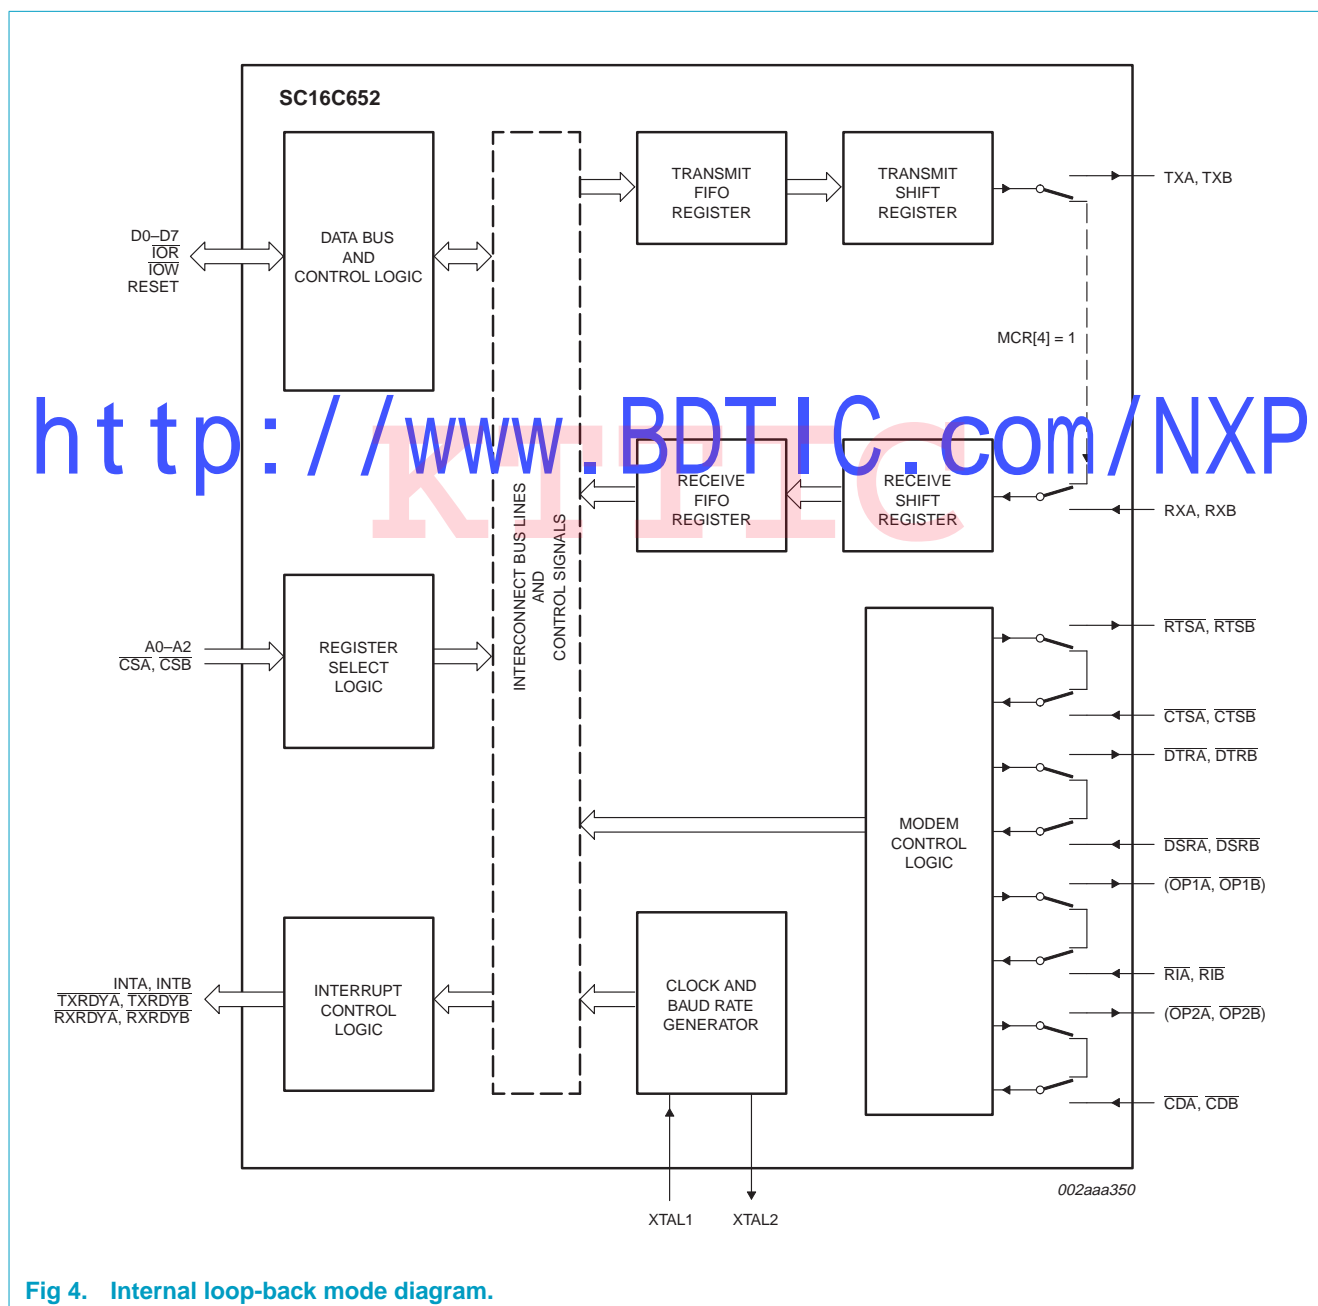

Fig 4. Internal loop-back mode diagram.
The internal loop-back capability allows on-board diagnostics. In the loop-back mode, the normal modem interface pins are disconnected and reconfigured for loop-back internally (see Figure 4). MCR[0-3] register bits are used for controlling loop-back diagnostic testing. In the loop-back mode, the transmitter output (TX) and the receiver input (RX) are disconnected from their associated interface pins, and instead are connected together internally. The CTS, DSR, CD, and RI are disconnected from